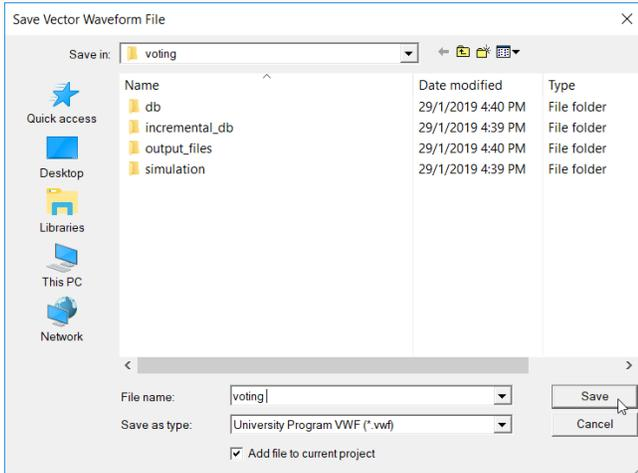

Figure 32. Save the vector waveform.
- Go to File click Save as. A pop-up box will appear as shown in Figure 32, click Save